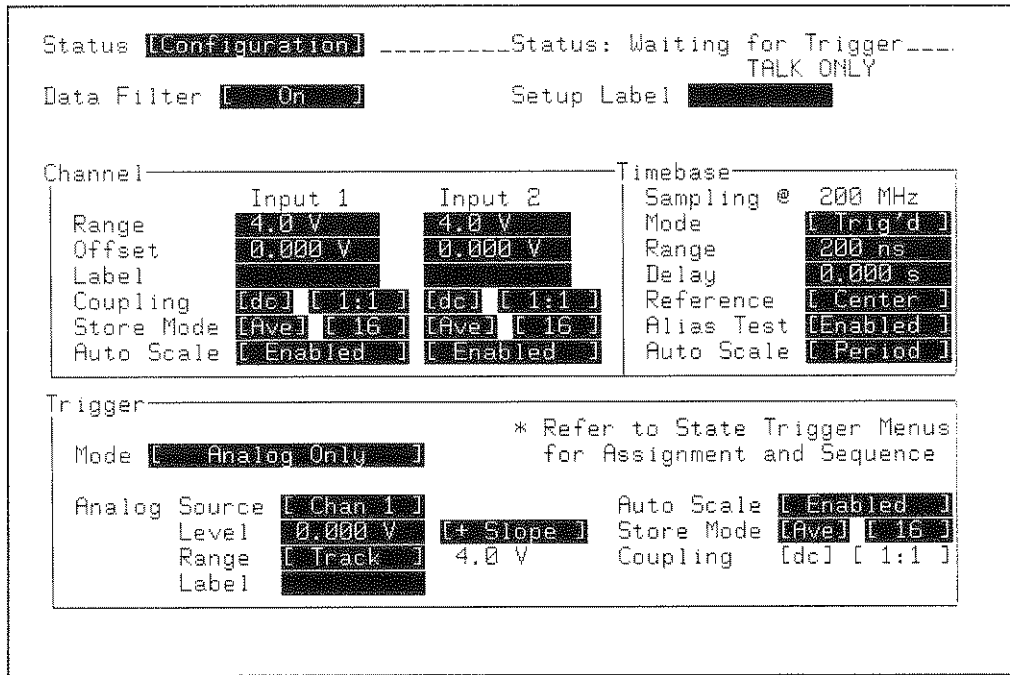

Figure 9-7. STATUS Configuration Menu
1. Configure STATUS Configuration menu as shown in figure 9-7.